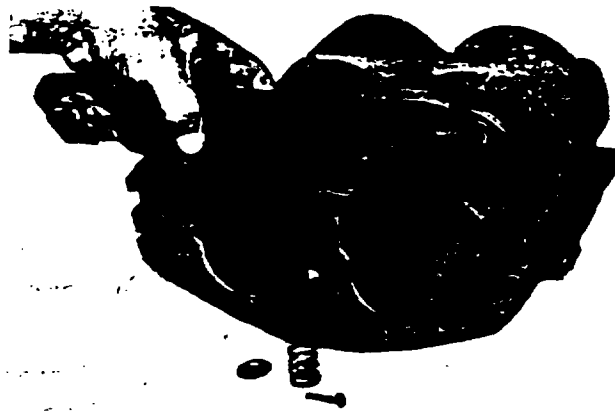

Figure 8-52. Remove Outer Shoe and Lining Assembly.
3. Remove outer shoe and lining assembly. See Figure 8-52.